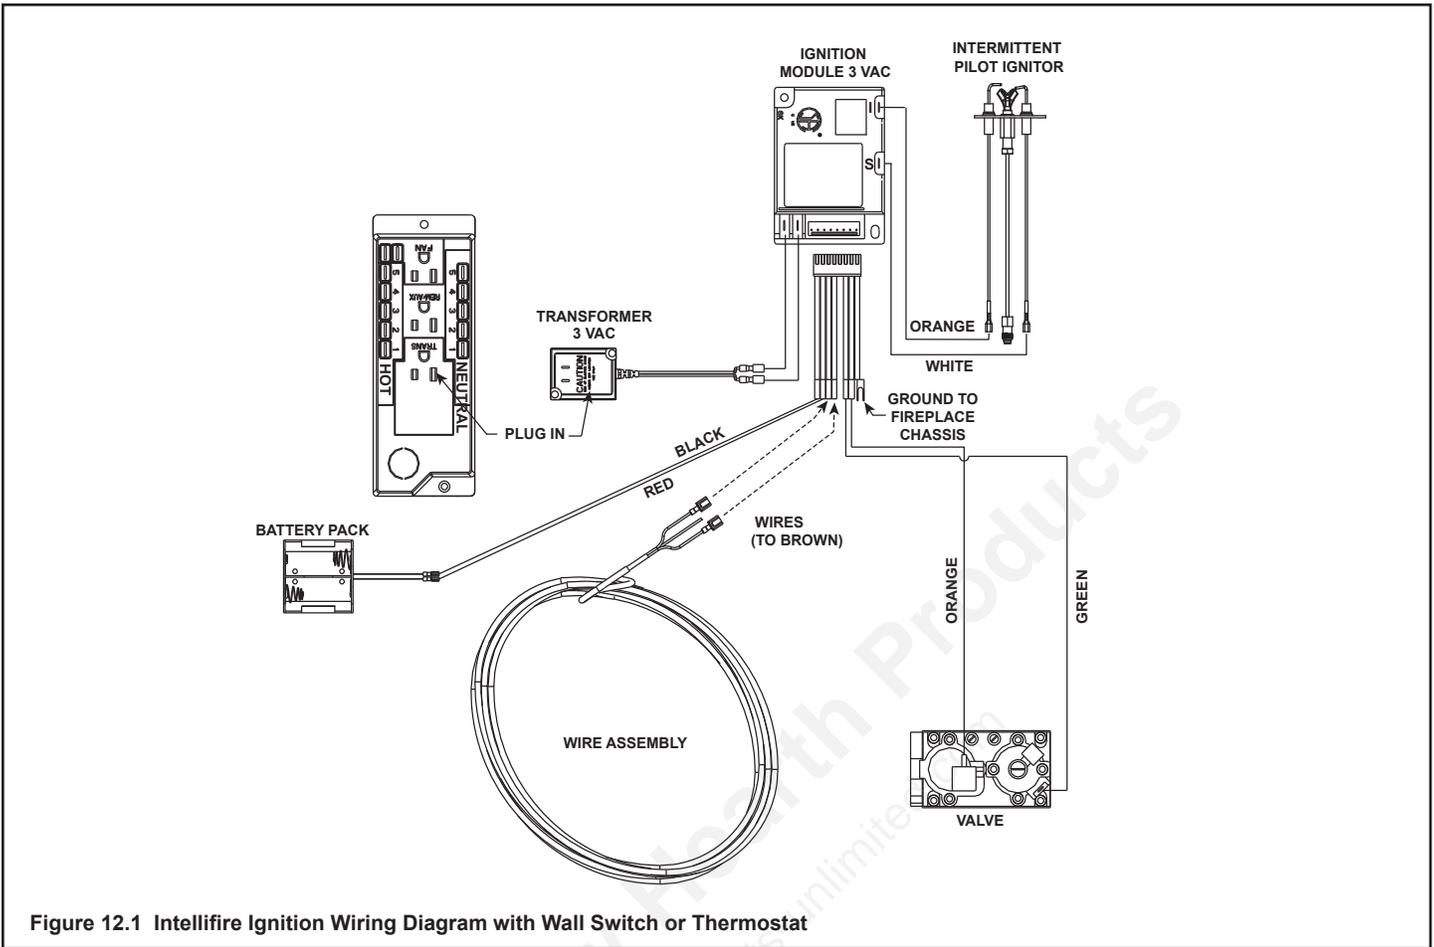

Figure 12.1 Intellifire Ignition Wiring Diagram with Wall Switch or Thermostat
- Refer to Figure 12.1 and Figure 12.2, Intellifire Pilot Ignition (IPI) Wiring Diagrams.